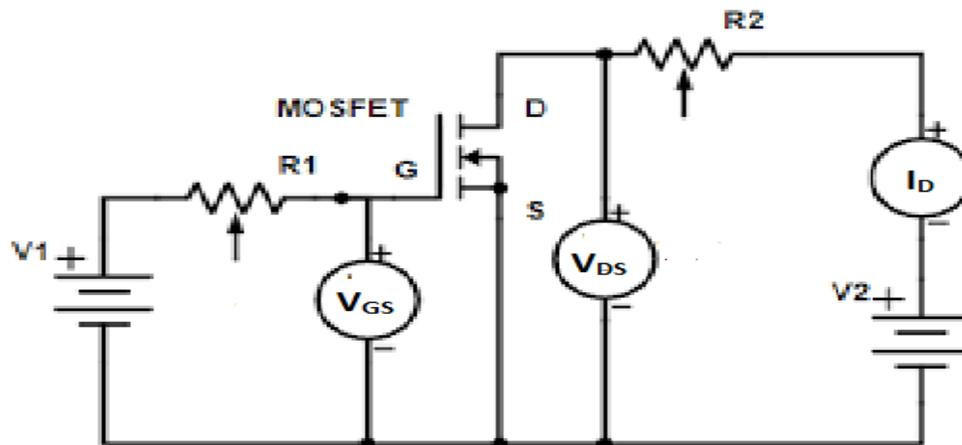

Figure 4
The circuit diagram for an N-channel metal oxide field effect transistor (N-channel MOSFET) is shown in figure 4.
1. Make connection as shown in figure 4.
**(B) Mutual characteristics (For N –Channel MOSFET)**